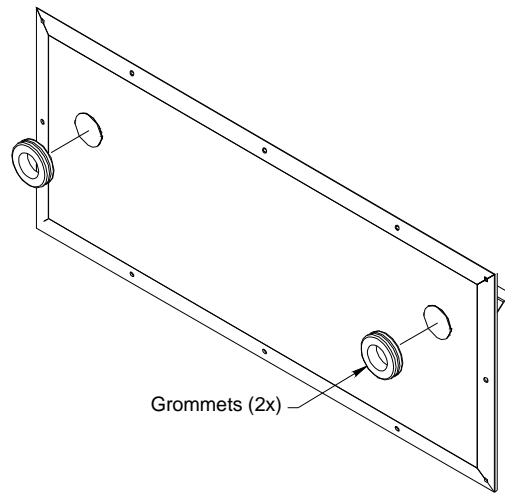

Figure 14
Step 4: Remove the knock-outs from the left side panel and install the grommets in the holes as shown in figure 14.